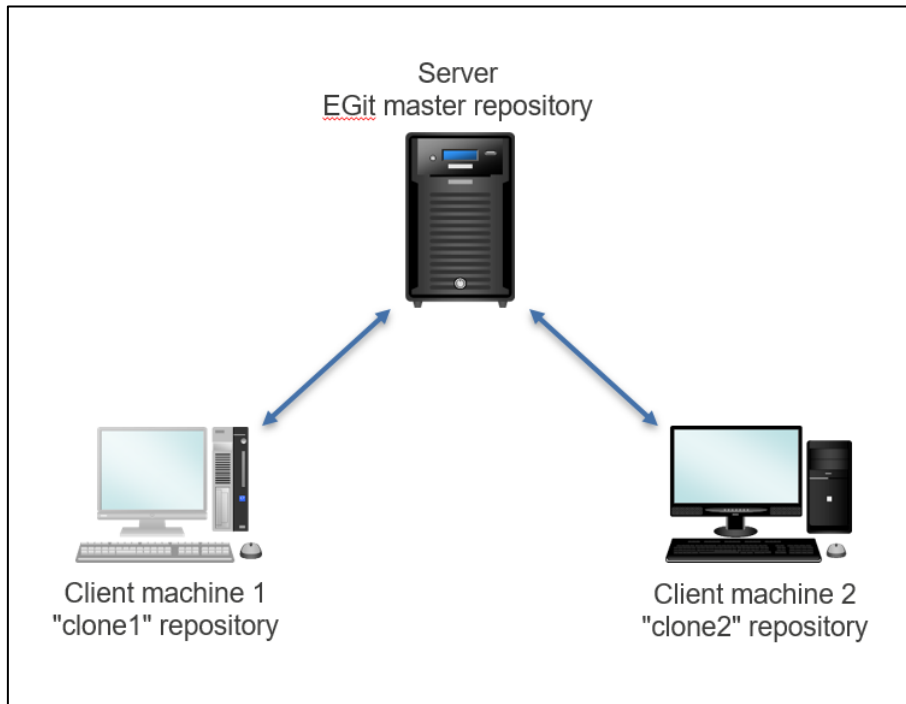

Figure 6 Network architecture for EGit repository
- 1) Clone 2nd repository from the "master" repository created in section 4 as instruction in section 5.1 (cloned repository in "client machine 2" illustrated in Figure 6).